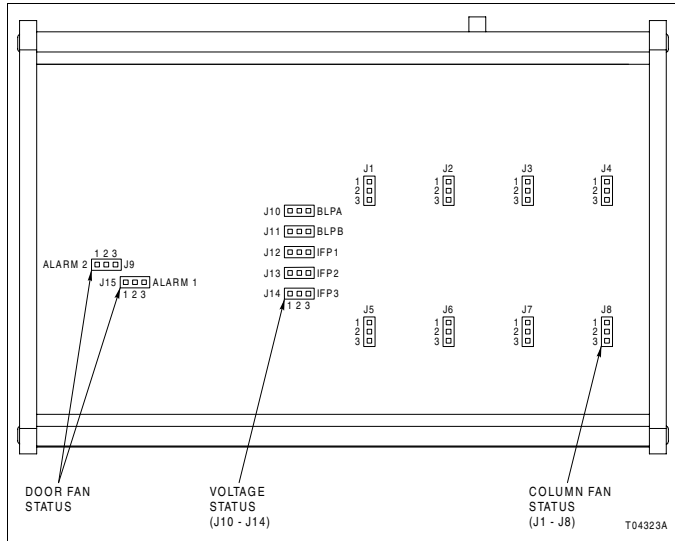

Figure PR5-1. Alarm Assembly Layout (Jumpers)
2. Set the alarm jumpers J1 through J15 located on the alarm assembly according to Tables PR5-1 through PR5-3. Refer to Figure PR5-1 for jumper locations.